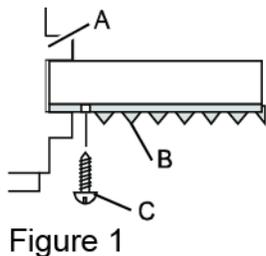

Figure 1
- Vinyl Windows - Use a $\frac{1}{8}$ " drill bit to drill two holes through the holes in the side curtains into the window frame. Screw in the $\#10 \times \frac{3}{4}$ " Flat Screw through the holes in the side curtains into the window sash. Refer to figure 1 above.